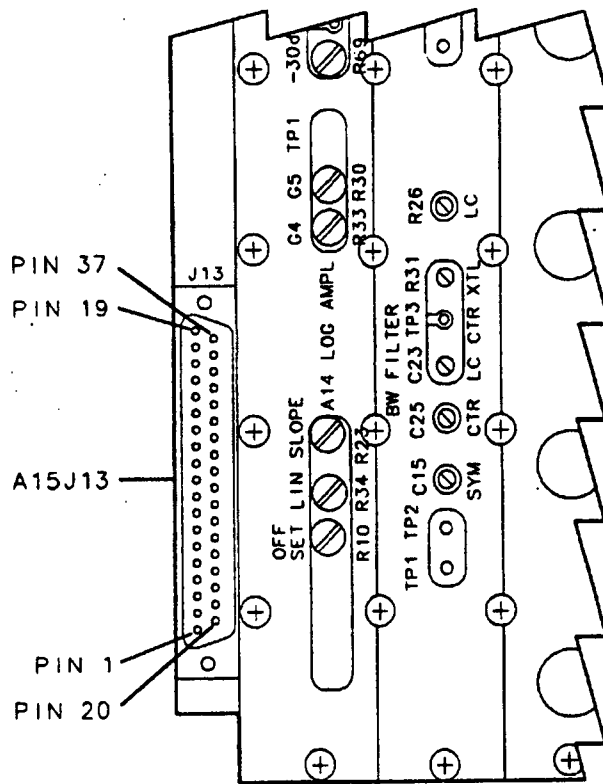

Figure 8-3. A15J13 Connector-Pin Designation
- Figure 8-3, A15J13 Connector-Pin Designation. Provides the pin numbering sequence for the connector that connects the AS Power Supply to the motherboard.